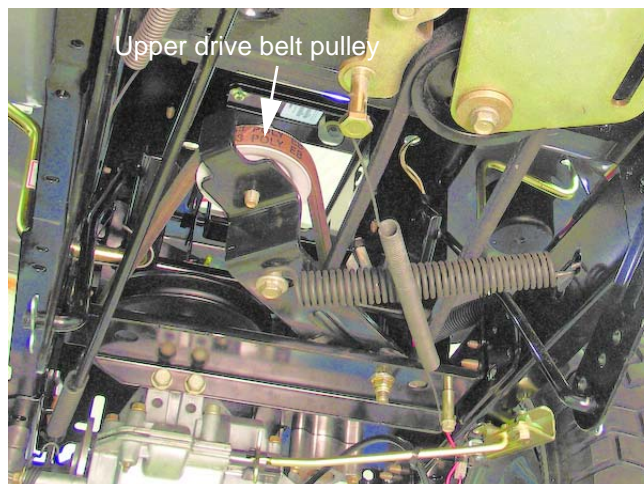

Figure 5.31
1. Remove the upper drive belt from the make-up tensioner pulley as described in the drive belts section of this chapter. See Figure 5.31.